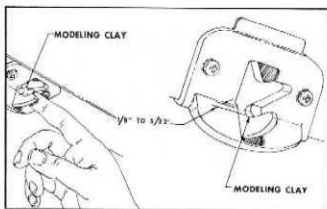

Fig. 34—Lid Lock Engagement
1. Insert modeling clay at the bottom of the bolt slot and close lid with moderate force (fig. 34).